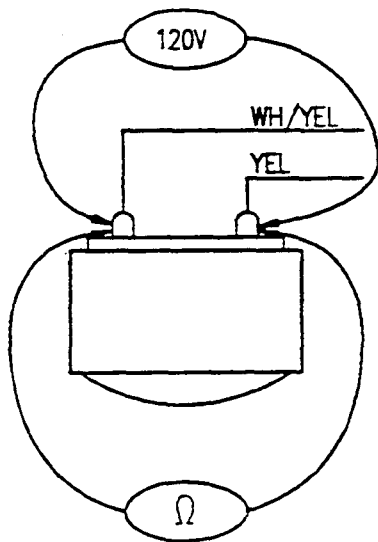

Figure 6-23. Condenser Solenoid Valve
5. Refer to Figures 6-23, 6-24, 6-25, 6-26, and connect the voltmeter leads to test point 1 and test point 2. With these connections, check for 0 VAC across the drain solenoid.